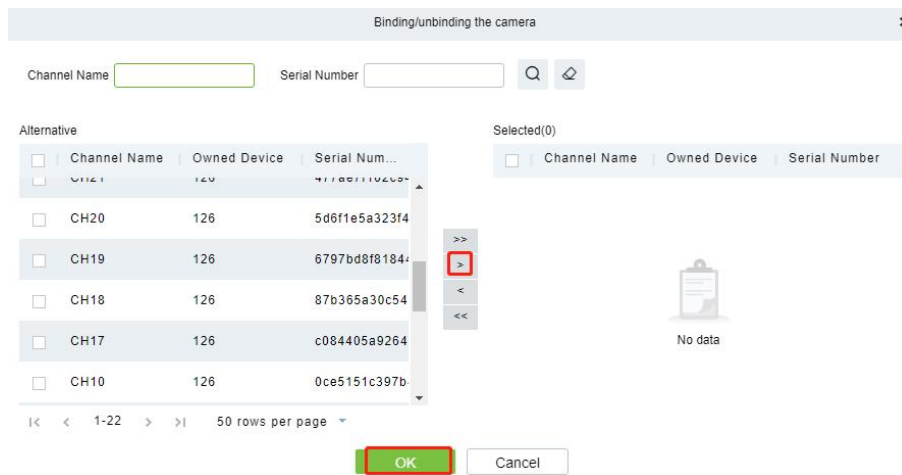

Figure 1-6 Binding Camera
Step 1: In the **Locker** module, select **Locker Device Management > Visual Panel**, as shown in figure 1-6